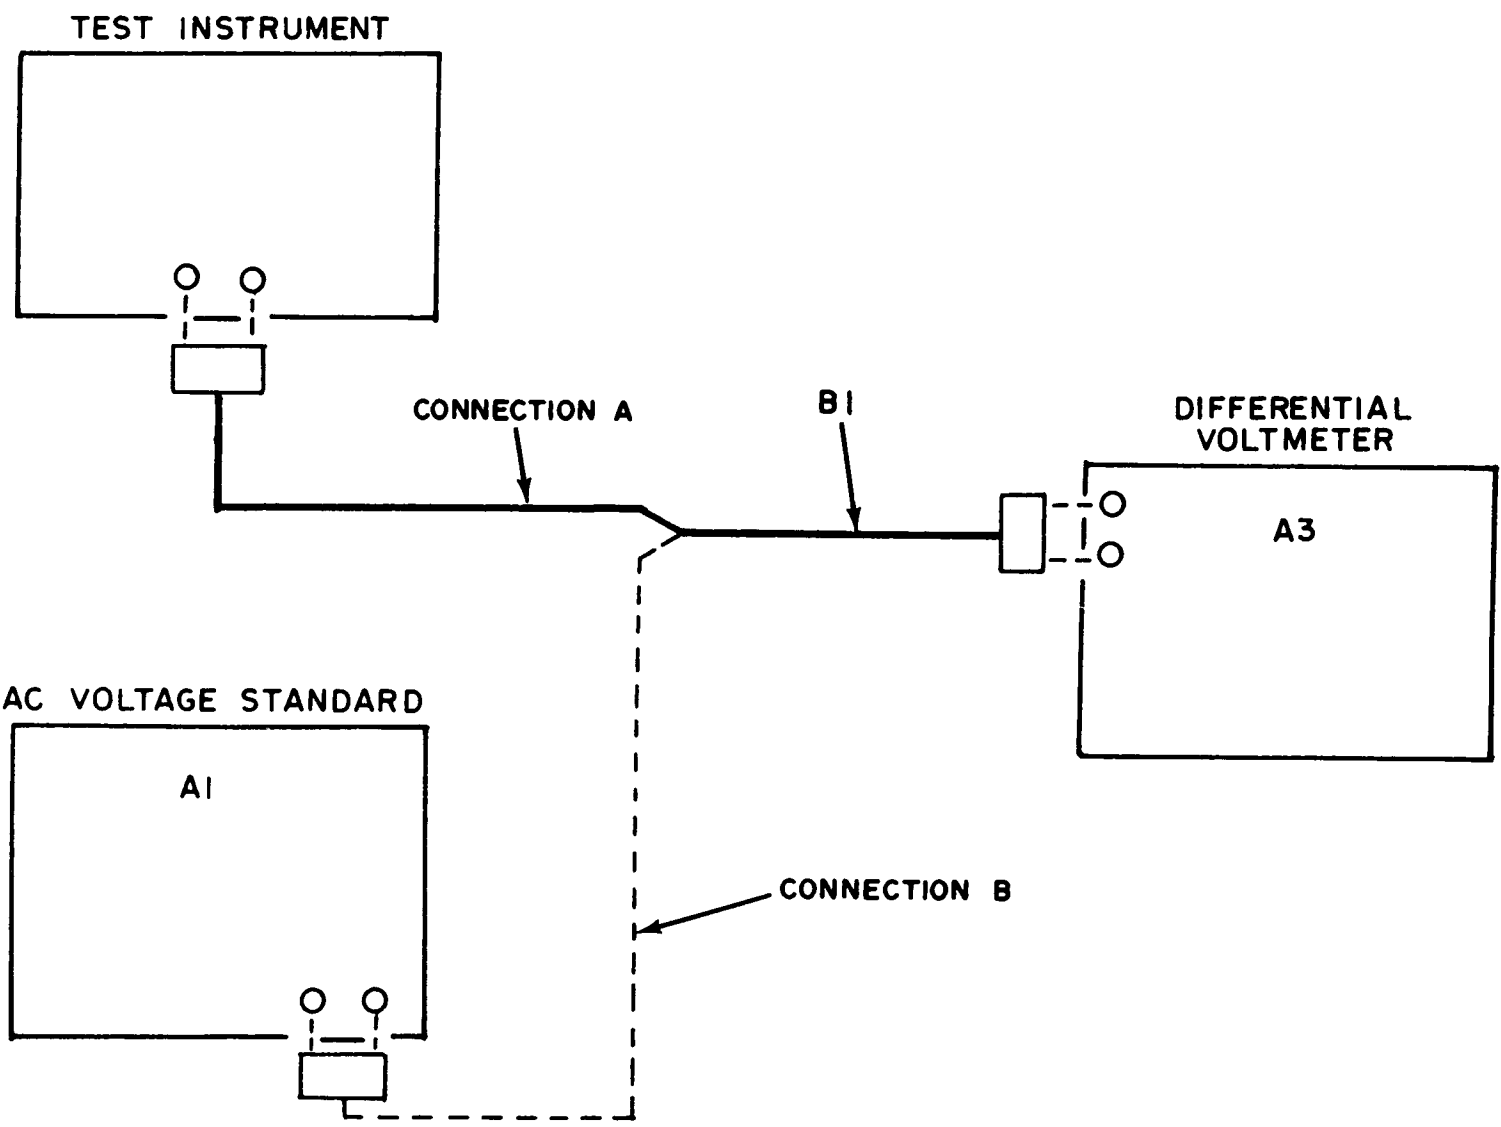
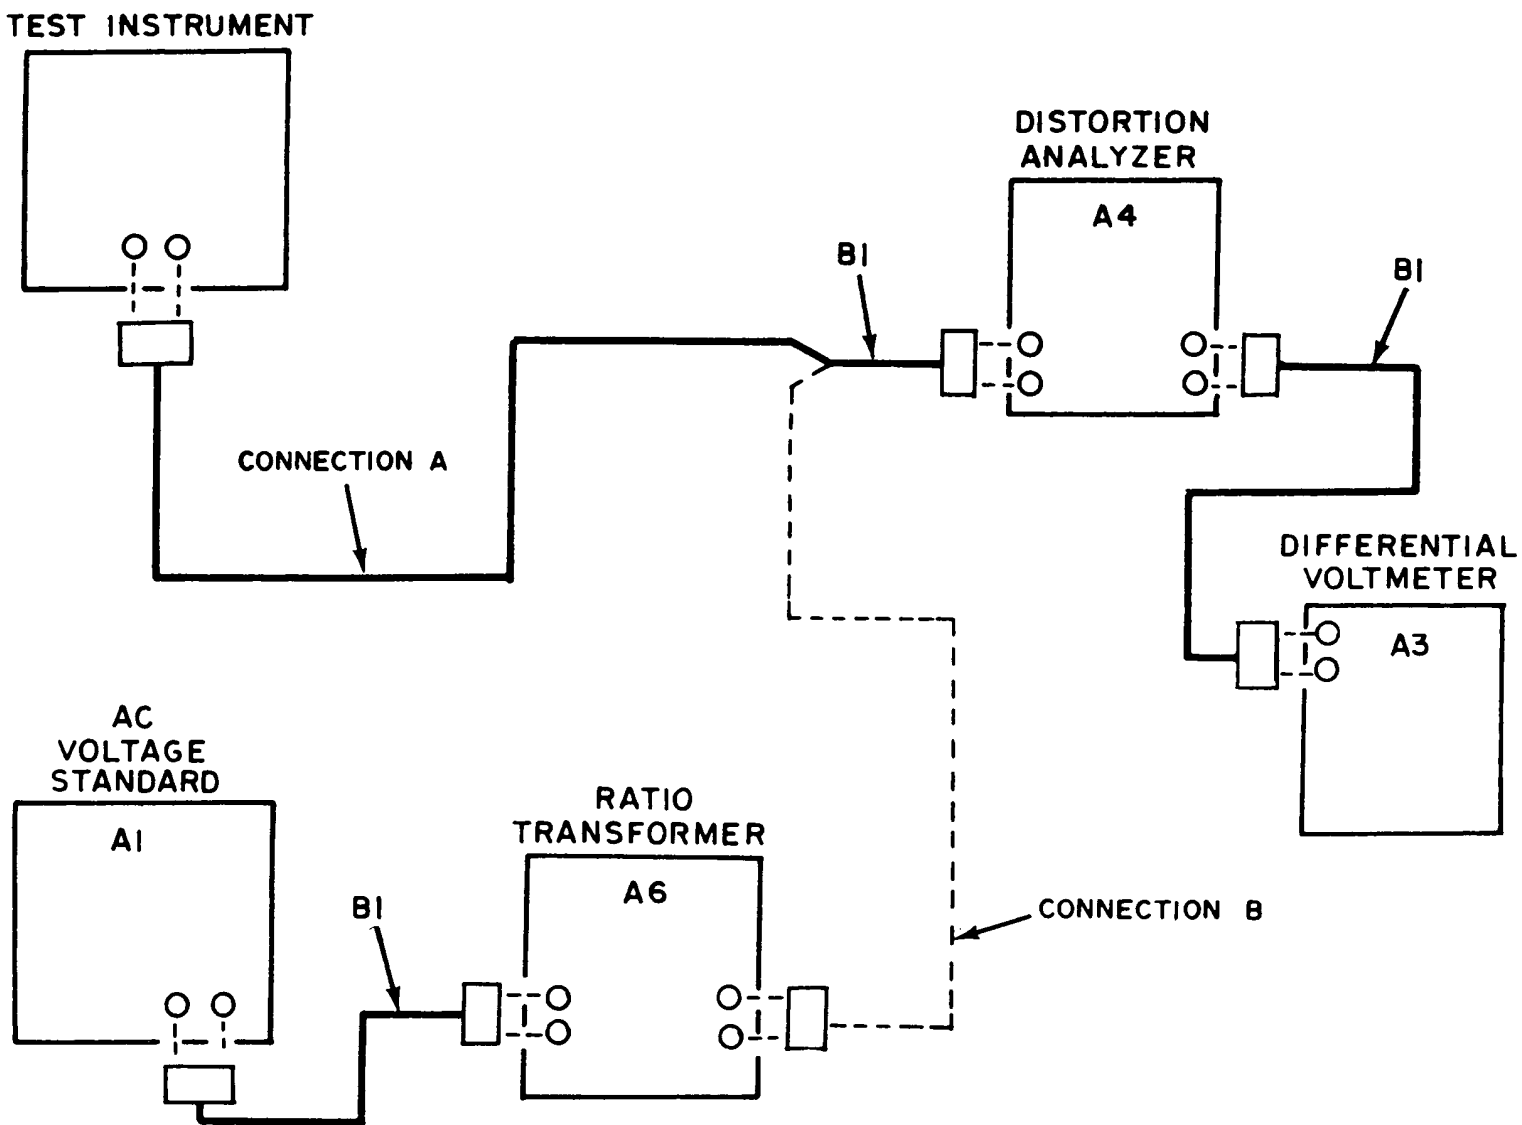
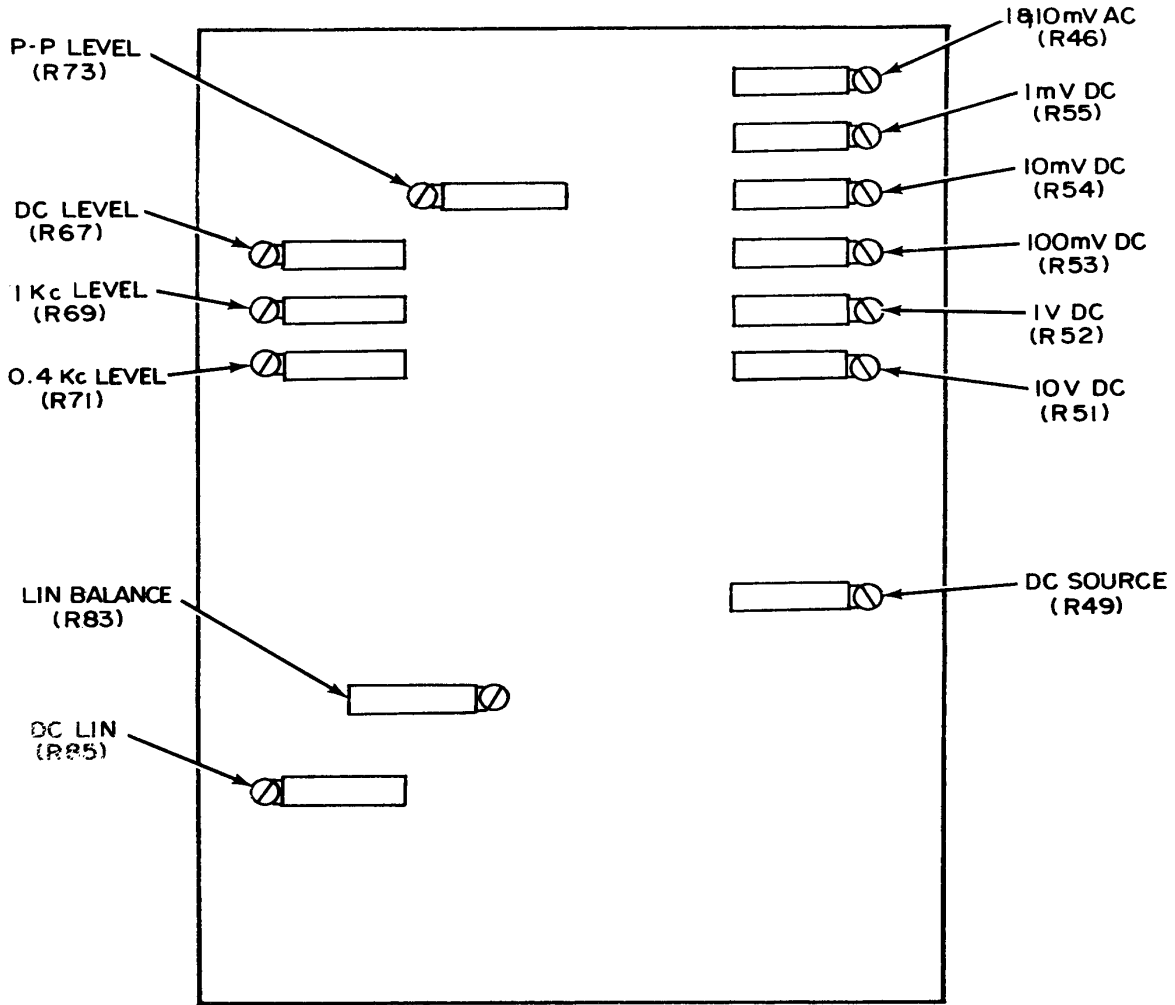
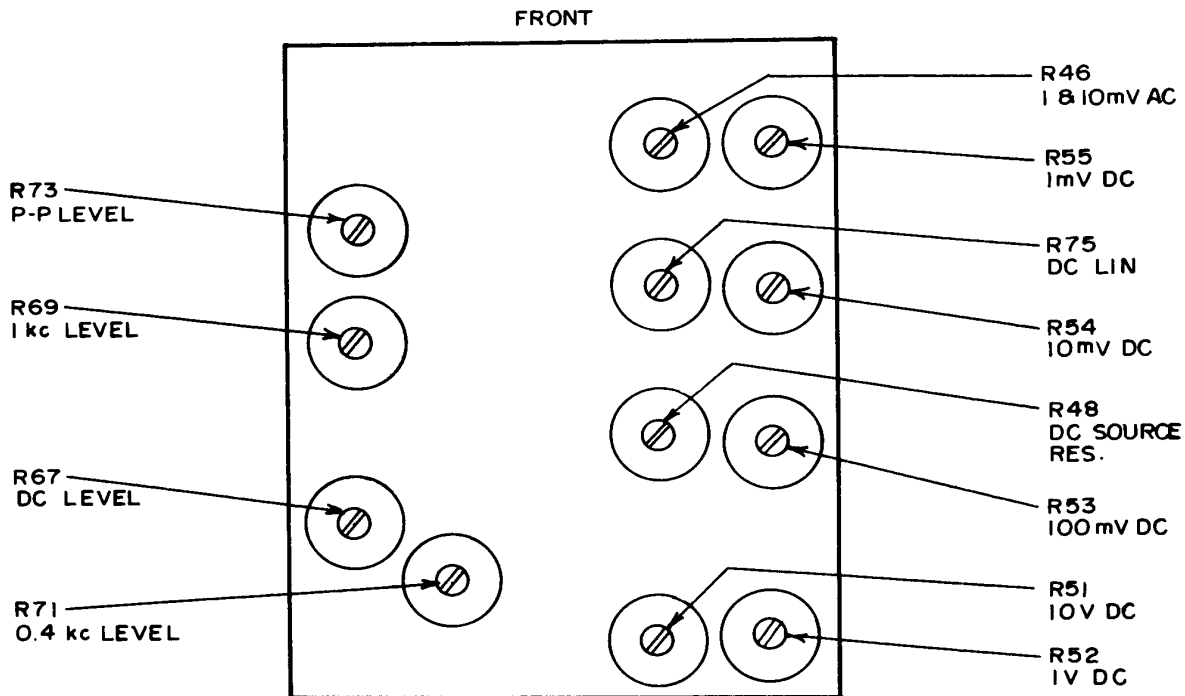

Figure 3. Voltage accuracy - equipment setup.
Figure 4. Low voltage accuracy - equipment setup.
Figure 5. Model 421A (above SIN 901) adjustments.
Figure 6. Model 421A (below SIN 901) adjustments
(1) Connect autotransformer (A2) to a 115-V ac source and adjust for a 115-V output.
(2) Connect TI to autotransformer and equipment as shown in figure 3, connection A.
(2) Adjust differential voltmeter (A3) to obtain null indication and leave its readout dials set.
(3) Connect equipment as shown in figure 3, connection B.
- (6) Connect equipment as shown in figure 4, connection A.
- (7) Position controls as listed in (a) through (c) below:
- (8) Set distortion analyzer (A4) to voltmeter function and 1 V range.
- (9) Adjust differential voltmeter to obtain null indication and leave its readout dials set.
- (10) Connect equipment as shown in figure 4, connection B.
- (11) Adjust ratio transformer (A6) to .100000 and ac voltage standard for a nominal 1-V output.
- (12) Adjust ac voltage standard output to obtain null indication on differential voltmeter with its readout dials set as in (9) above. Ac voltage standard will indicate between .998420 and 1.001580 V.
- (13) Connect equipment as shown in figure 4, connection A.
- (14) Set RANGE switch to 10 mV and OUTPUT VOLTAGE controls to TEN.000.
- (15) Set distortion analyzer to .01 range.
- (16) Adjust differential voltmeter to obtain null indication and leave its readout dials set.
- (17) Connect equipment as shown in figure 4, connection B.
- (18) Adjust ratio transformer to .010000 and ac voltage standard for a nominal 1-V output.
- (19) Adjust ac voltage standard output to obtain null indication on differential voltmeter with its readout dials set as in (16) above. If ac voltage standard does not indicate between .99847 and 1.001553 V, perform **b**(10) through (12) below.
- (20) Connect equipment as shown in figure 4, connection A.
- (21) Set RANGE switch to 1 mV and OUTPUT VOLTAGE controls to .TEN000.
- (22) Set distortion analyzer to .001 range.
- (23) Adjust differential voltmeter to obtain null indication and leave its readout dials set.
- (24) Connect equipment as shown in figure 4, connection B.
- (25) Adjust ratio transformer to .001000 and ac voltage standard for a nominal 1-V output.
- (26) Adjust ac voltage standard output to obtain null indication on differential voltmeter with its readout dials set as in (23) above. If ac voltage standard does not indicate between .99847 and 1.001553, perform **b**(10) through (12) below.
- (27) Position controls as listed in **(a)** through **(c)** below:
(28) Connect differential voltmeter to TI $\pm 0.3\%$ 0.4 kc ONLY output jack and GND, using leads (B3 and B4).
(29) Differential voltmeter will indicate between 995.45 and 1004.550 V ac.
(30) Set MODE switch to 0.4 kc P-P. Differential voltmeter will indicate between 351.8915 and 355.10843 V ac.
(1) Adjust the voltage standard to obtain a 100-V output at 1 kHz (kilohertz). Adjust differential voltmeter to obtain null indication and leave its readout dials set.